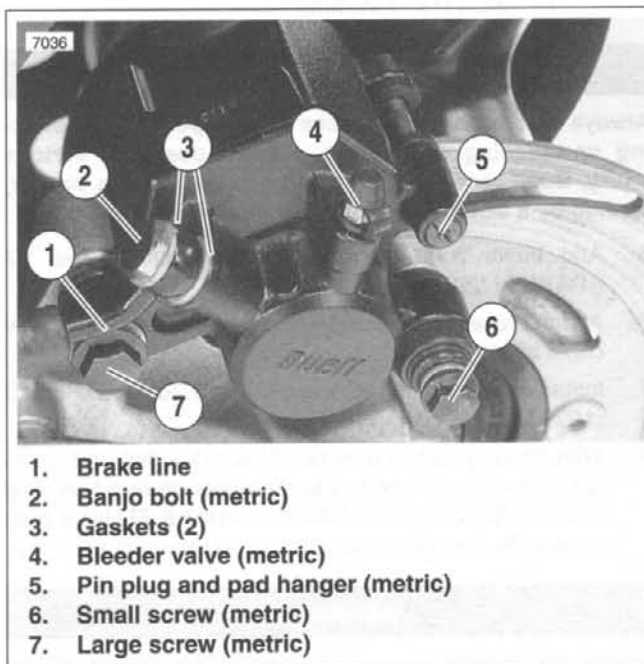
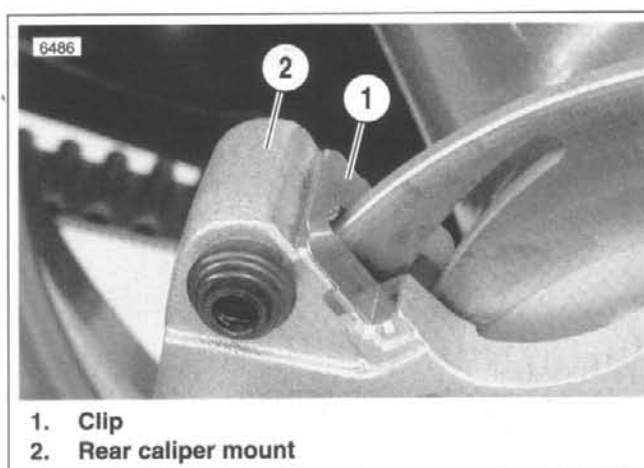

Figure 2-49. Rear Brake Caliper
Figure 2-50. Caliper Mount Clip
2. See Figure 2-49. Remove banjo bolt (2) (metric) and two gaskets (3) to disconnect brake line (1) from caliper. Discard gaskets.
3. Remove small screw (6) (metric) and large screw (7) (metric) to detach caliper from mount.
4. See Figure 2-50. Remove clip (1) from rear caliper mount (2) if necessary.
1. See Figure 2-49. Remove pin plug and pad hanger (5) (metric) to free brake pads.
1. See Figure 2-50. Install caliper mount clip (1) if removed.
2. See Figure 2-49. Install caliper assembly on caliper mount. Brake pad surfaces must face rear brake rotor.
- b. Install large caliper screw (7) (metric). Tighten to 18-22 ft-lbs (24.4-29.8 Nm)
- c. Install small caliper screw (6) (metric). Tighten to 14.5-18 ft-lbs (19.6-24.4 Nm).